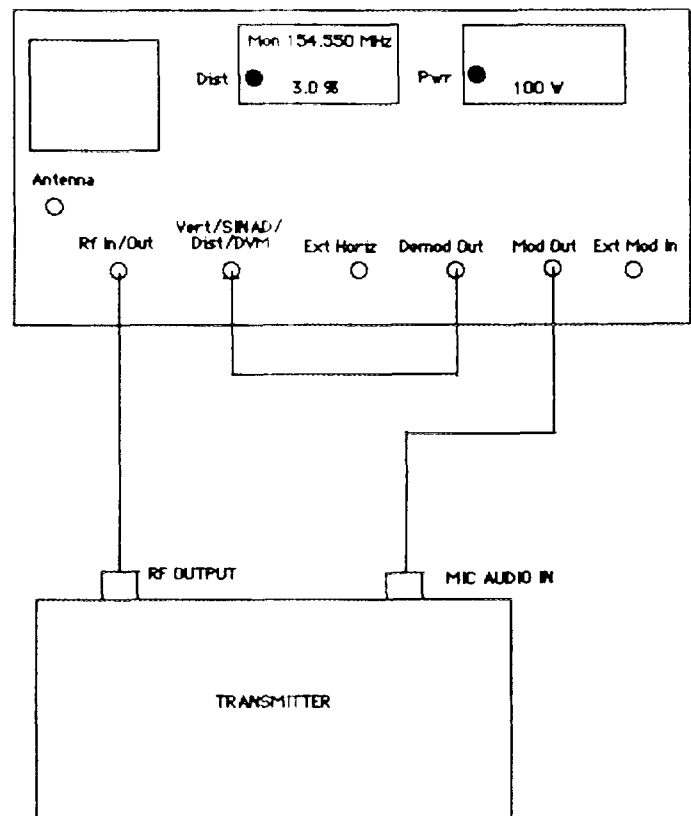

FIGURE 5.8 – TRANSMITTER AUDIO DISTORTION SETUP
2. Connect the service monitor to the transmitter, as shown in figure 5.8. Observe caution on page 5-5.